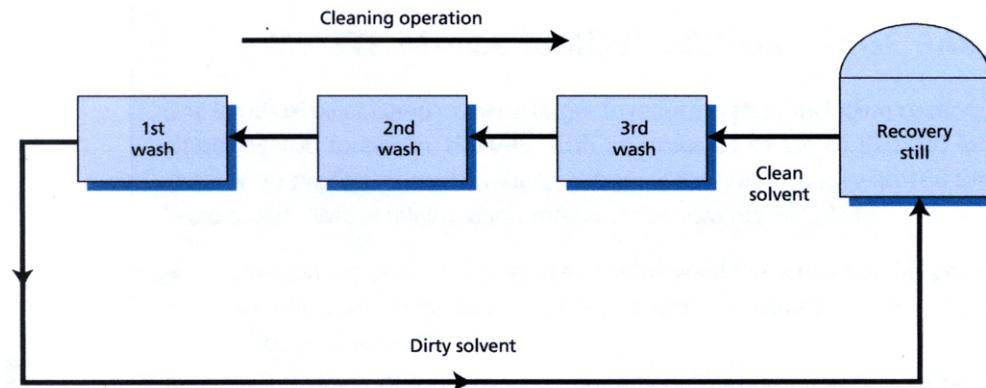

Figure 3 Optimised Cleaning Cycle using Dirty Solvents
- Use clean solvent (distilled/virgin) only for the last wash. Use dirty solvent for the initial washes as shown in Fig 3.